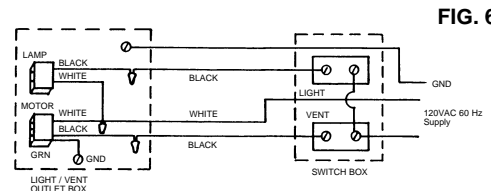
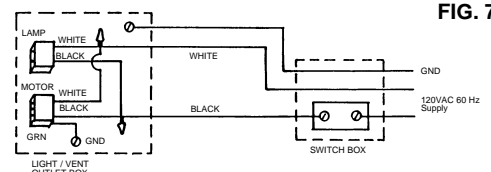

FIG. 6
FIG. 7
5. Remove outlet box cover by pulling downward while simultaneously pushing in on side of cover to release locking tab. Connect cables from wall switch/switches to receptacle wires using approved wire connectors. Connect ground wire to green wire in outlet box. These units can be wired so that vent and light function independently of each other, see Fig. 6, or wired so that when the light is on the vent is on, See Fig. 7. Replace outlet box cover insuring locking tab is engaged.